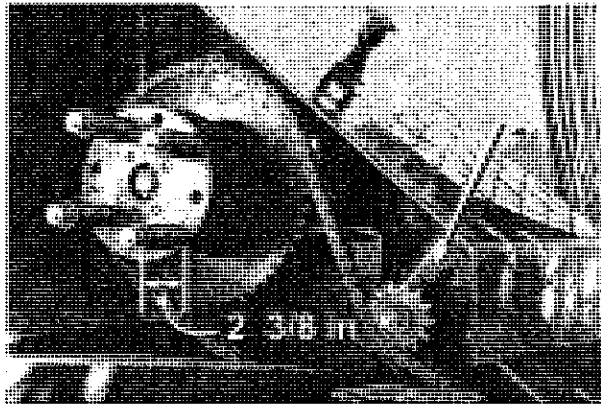

Figure 44. Wheel Elevator Slip Clutch
The elevator drive is protected by a slip clutch (see Figure 44). The four (4) springs set the tension of this clutch. The recommended setting is 2-3/8" actual length of the springs. Be sure all four springs are set at the same length. **Keep the jaws free of grease.**